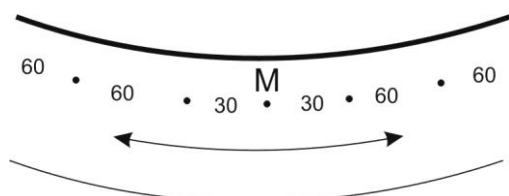

fig. 2.1
Step 2: Marks for hooks (13) and fastener (28) (fig. 2.1 to 2.5)
Mark marks for hooks starting from starting point "M" in a distance of 60 cm around the swimming pool 5-10 cm under the swimming pool edge in both directions. fig. 2.1.